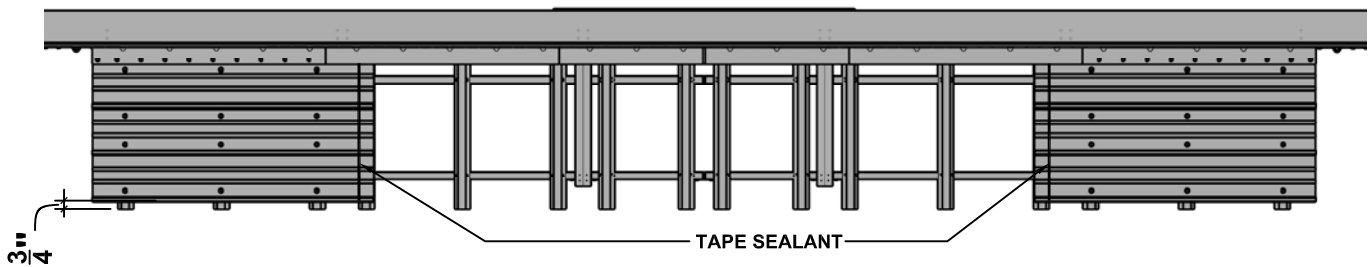

FIGURE 17
1. Place the End Roof Sheets back on the Hat Purlins. Slide the sheet toward the wall panel allowing $\frac{3}{4}$ " from the end of the Hat Purlins per **Figure 17**. Align the bottom of the panel with the end of the Transition Flashing. Square panel with canopy framing. Attach Roof Panel to lowest Hat Purlin with Structural Screws per **Figure 17**.
2. Place a strip of Tape Sealant (M-061-00) across the top of the Long Roof Sheets (C-043-00) just below the bottom edge of the Hat Purlin per **Figure 17 & 18**.